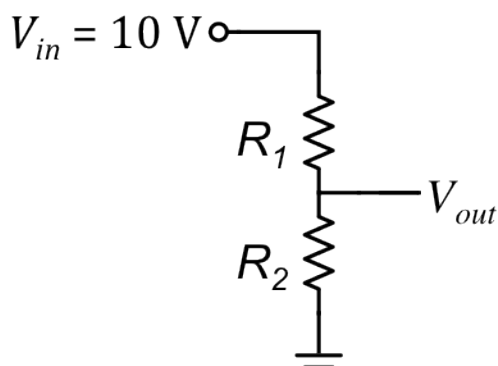

Figure 2 - Voltage divider circuit.
In this portion of the lab, you will construct the circuit shown in Figure 2 using a solderless breadboard. You will then measure V_{out} as a function of the resistance R_2 . Copy the circuit diagram and table into your lab notebook.
1. Sketch the circuit shown in Figure 2 in your lab notebook.
5. Insert this resistor into breadboard as R_2 to form the circuit shown in Figure 2. Use the breadboard's built-in power supply to provide $V_{in} = 10\text{ V}$ to the circuit. Make sure the other end of the circuit is properly connected to ground.
11. Make a plot of the *measured* output voltage V_{out} as a function of the *measured* resistance R_2 with the theoretical curve given by Eq. (1). (Make the *theoretical* curve smooth by using 'linspace()' for the variable R_2 , and the measured value for the constant R_1 .)